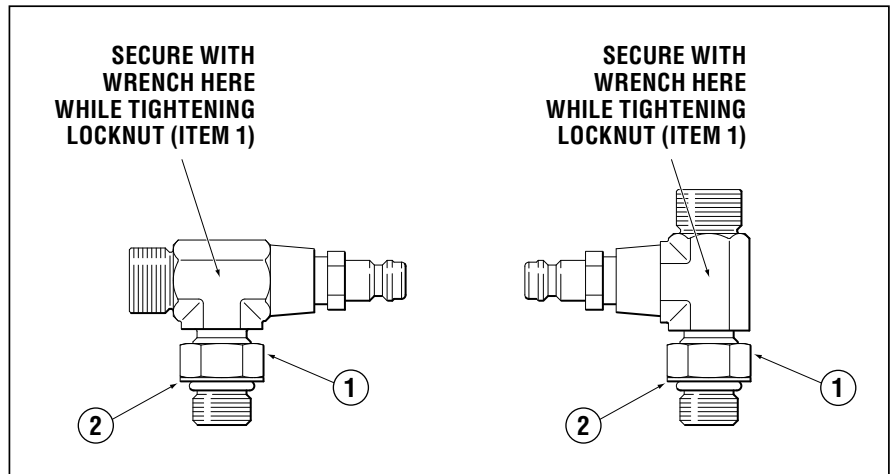

Figure 4.
1. Back off lock nut (item 1, figure 4), counter-clockwise, until it stops.
2. Thread fitting into cylinder body until fitting washer (item 2, figure 4) contacts the face of the cylinder port. Tighten hand tight, **DO NOT TORQUE FITTING INTO GLAND.**
4. While holding fitting with a wrench, tighten the locknut (item 1, figure 4) and torque to 40–43 ft-lb.
Failure to properly tighten the locknut (item 1, figure 4) may lead to loss of steering control. Loss of steering control may result in unpredictable boat behavior, collision with an obstacle and/or ejection from vessel, leading to property damage, personal injury and/or death.
- Fill the helm pump full of oil (refer to figure 4). Oil should always be visible in the filler tube. Use the next bottle at any time throughout the procedure when the oil level drops in the filler tube. **DO NOT** proceed with step two until helm is full of oil.